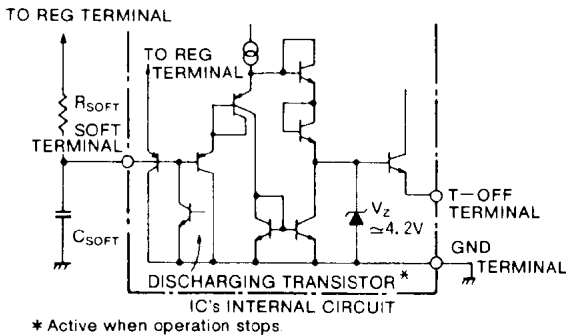

Fig.6 Circuit diagram of SOFT terminal section and T-OFF terminal section
Fig. 6 shows the circuit diagram of the soft start. If SOFT terminal voltage is low, T-OFF terminal voltage becomes low and  $V_{T-OFF}$  in equations (3) and (4) become low.